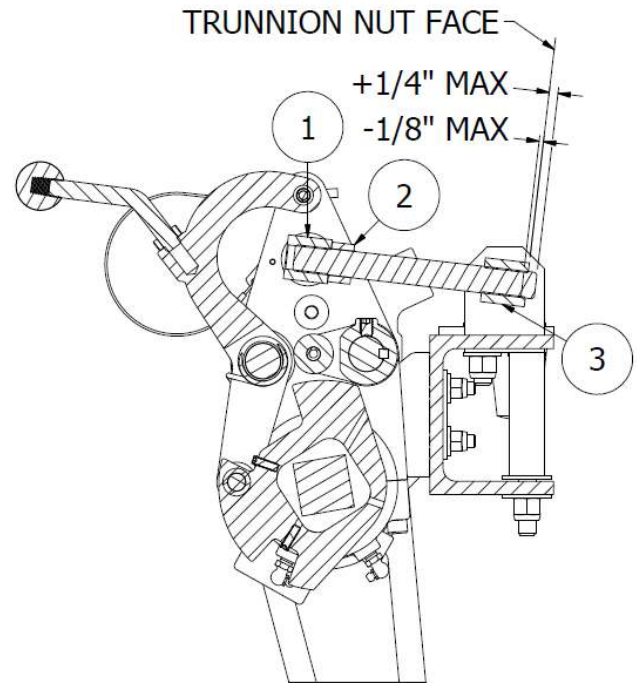

Figure 4-6
2. Figure 4-6 illustrates the load adjustment stud on the front and rear units. Each guide wheel is adjusted independently of the other.
3. Loosen the jam nut (1) using the provided wrench.
- To Increase the Load: Turn the adjusting stud (2) clockwise, shortening the distance between the trunnion nuts (3).
- To Decrease the Load: Turn the adjusting stud (2) counter-clockwise, lengthening the distance between the trunnion nuts (3).
4. Lock all guide wheels in the "rail" position. Recheck the guide wheel load on all guide wheels. When the load indicated is within the recommended weight, tighten jam nut (1) securely.